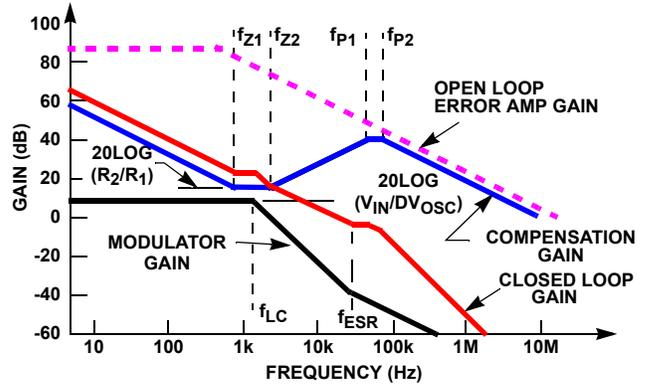

FIGURE 49. ASYMPTOTIC BODE PLOT OF CONVERTER GAIN
Figure 49 shows an asymptotic plot of the DC/DC converter's gain vs frequency. The actual modulator gain has a high gain peak due to the high Q factor of the output filter and is not shown in Figure 49. Using the guidelines provided should give a compensation gain similar to the curve plotted. The open-loop error amplifier gain bounds the compensation gain. Check the compensation gain at  $f_{P2}$  with the capabilities of the error amplifier. The closed-loop gain is constructed on the graph of Figure 49 by adding the modulator gain (in dB) to the compensation gain (in dB). This is equivalent to multiplying the modulator transfer function to the compensation transfer function and plotting the gain. The compensation gain uses external impedance networks  $Z_{FB}$  and  $Z_{IN}$  to provide a stable, high bandwidth (BW) overall loop. A stable control loop has a gain crossing with  $-20\text{dB/decade}$  slope and a phase margin greater than  $+45^\circ$ . Include worst case component variations when determining phase margin. A more detailed explanation of voltage mode control of a buck regulator can be found in Tech Brief TB417, entitled "Designing Stable Compensation Networks for Single Phase Voltage Mode Buck Regulators".